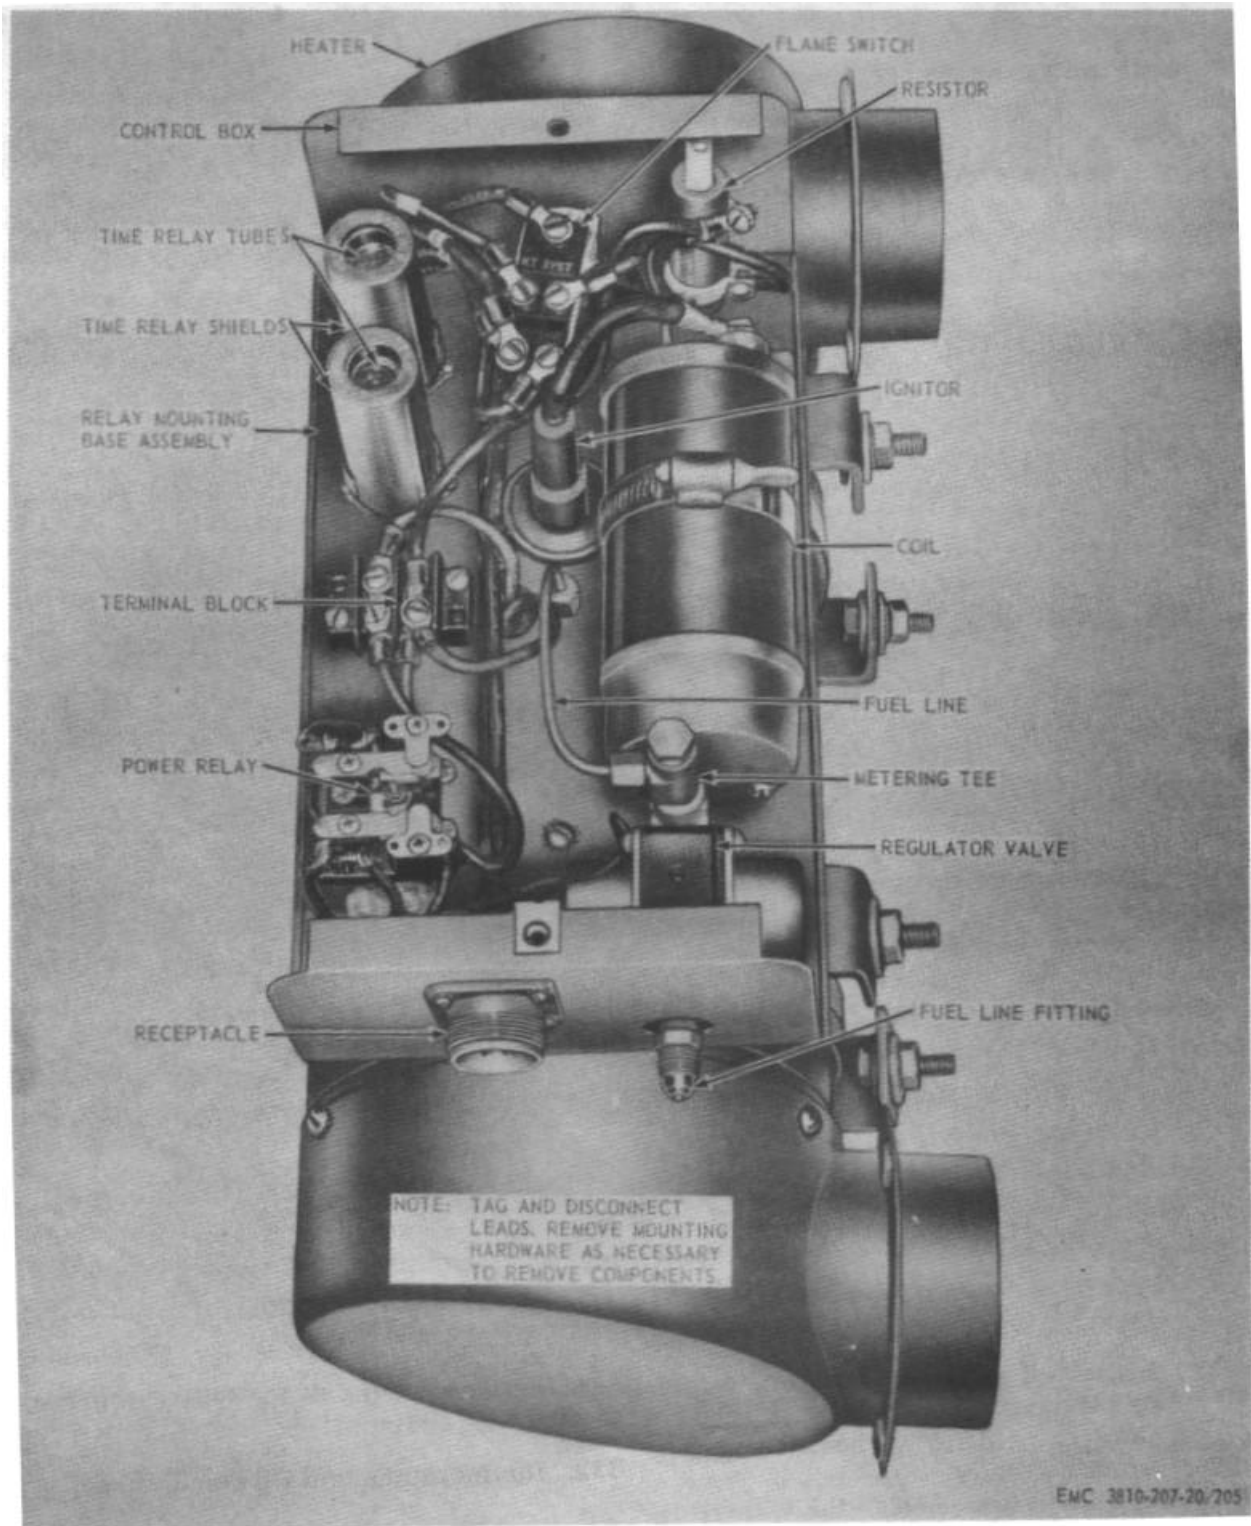

Figure 205. Cab heater control box, removal and installation.
a. Removal. Remove the cab heater control box as instructed on figure 205.
- (1) Clean each part with an approved cleaning solvent and dry thoroughly.
- (2) Inspect each part for proper operation and for damage. Replace or repair a damaged or defective part as necessary.
c. Installation. Install the cab heater control box as illustrated on figure 205.